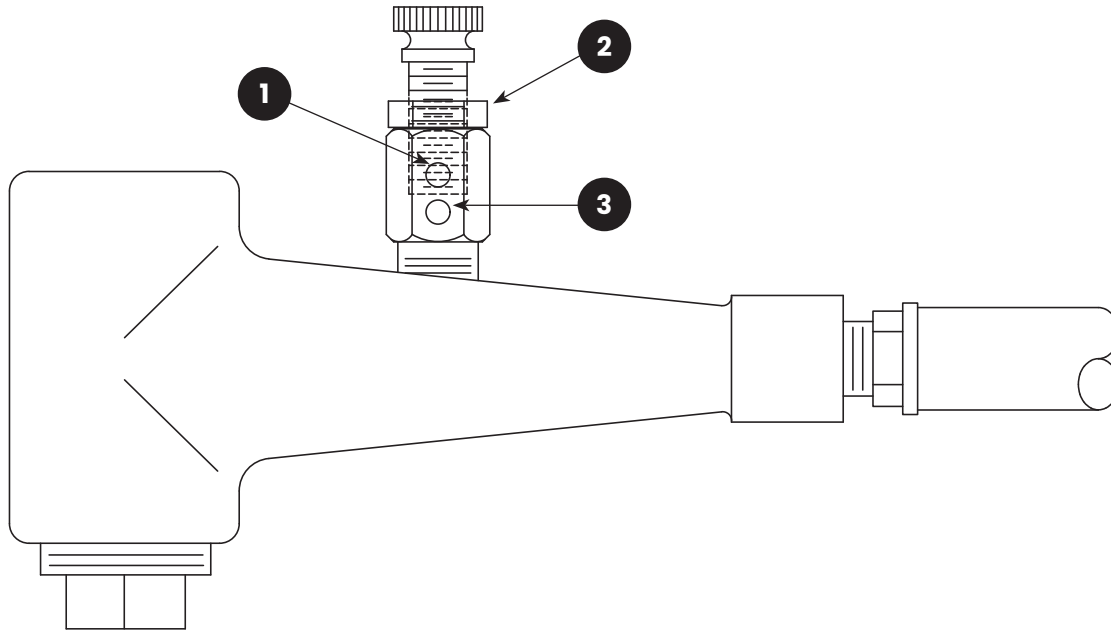

FIGURE 2: (1) Upper Holes Fully Closed; (2) Locking Nut; (3) Lower Holes Fully Open
5.2 | Media-Air Mixture – Figure 2
5.2.2 | If media does not flow smoothly, loosen the locking nut, and adjust the metering screw until the upper holes in the metering stem are closed off and the lower holes are fully open, as shown in **Figure 2**. This adjustment is a starting point.